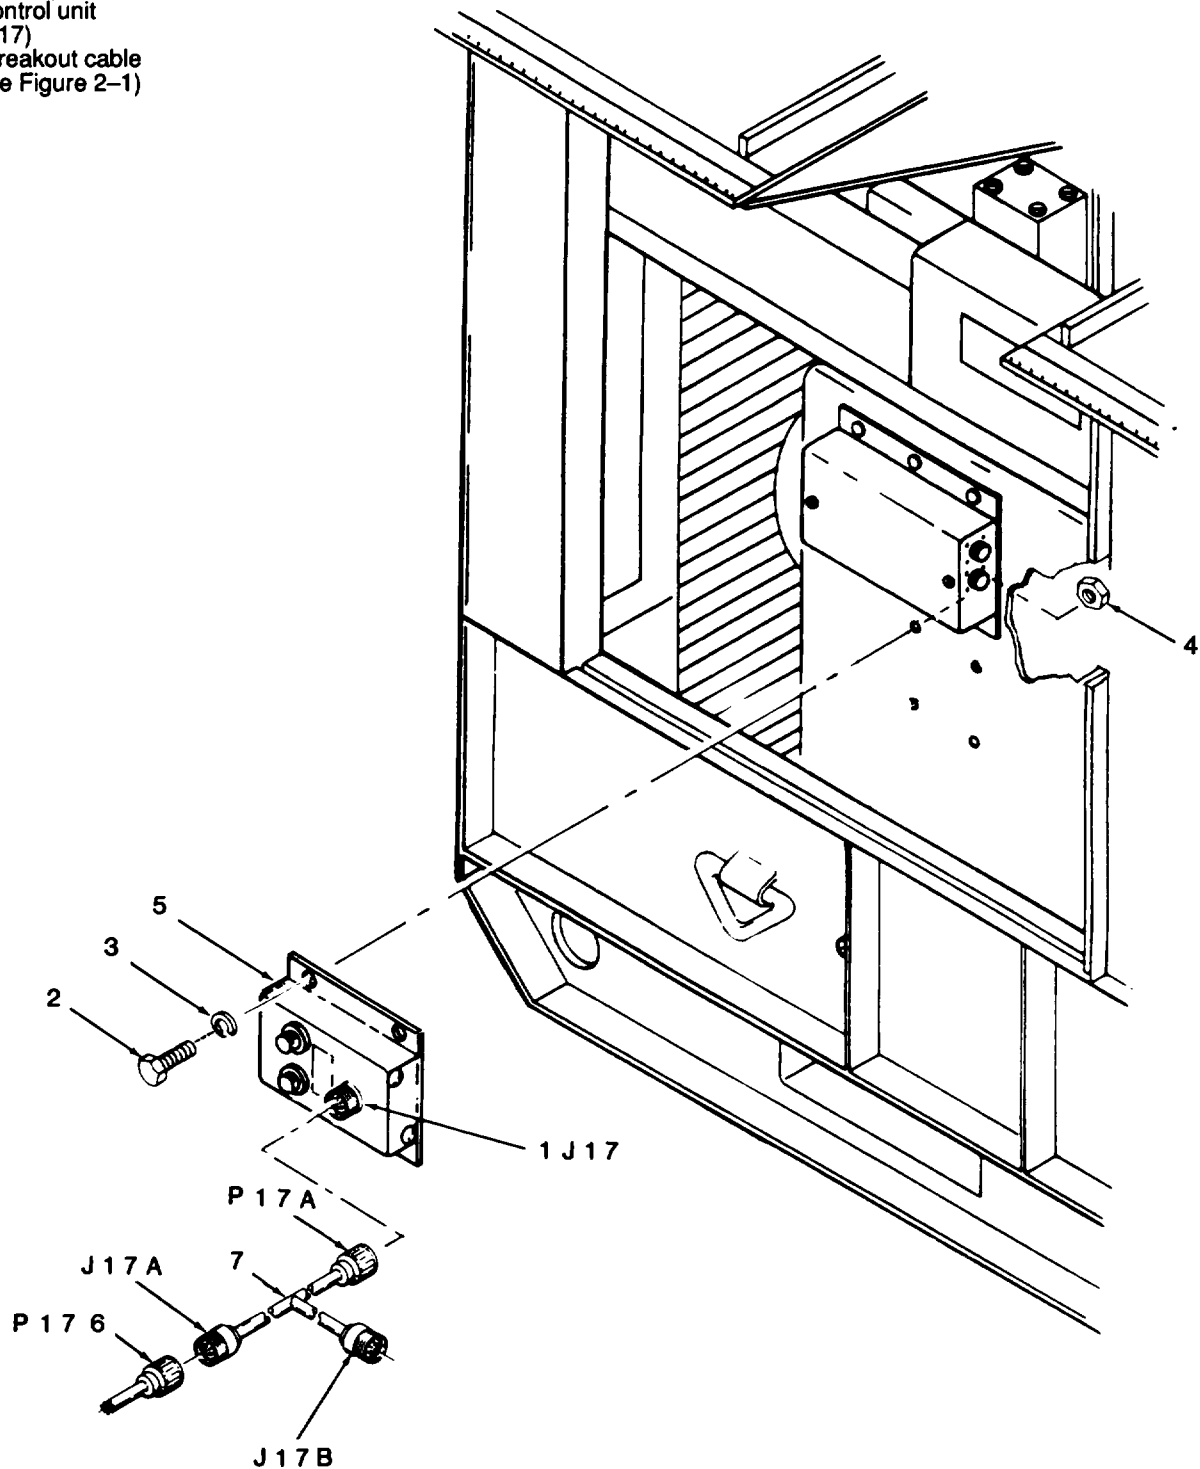

Figure 3-86. Governor Control Unit Removal and Installation
- (1) Connect the breakout cable (7, figure 3-86) as follows: Disconnect P17 (6) from J17(1), connect P17A(7) to J17(1), connect J17A(7) to P17(6).
- (2) Using a digital voltmeter, make the voltage readings in table 3-7 at the breakout cable plug. All readings are measured between the terminal and ground. Terminals F, G, H and T are ground.
- (1) Disconnect electrical connector P17 (1, figure 3-86).
- (2) Remove 4 hex head screws (2), lockwashers (3) and nuts (4).
- (3) Remove the governor control unit (5).
- (1) Position governor control unit (5, figure 3-86).
- (2) Install nuts (4), lockwashers (3), 4 hex head screws (2).
- (3) Connect electrical connector P17 (1).